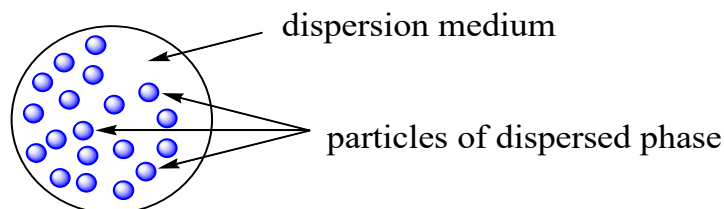

Figure 1 – A model of a dispersed system
**Dispersed system** is a micro heterogeneous system composed of microscopic particles of a dispersed phase distributed in a dispersion medium. A model of a dispersed system is given in Figure 1.